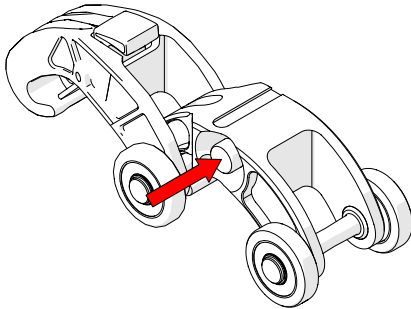

Fig. 50 - Press button
1. Press the button on the side of the Dovetail QuickLink (*Fig. 50*).